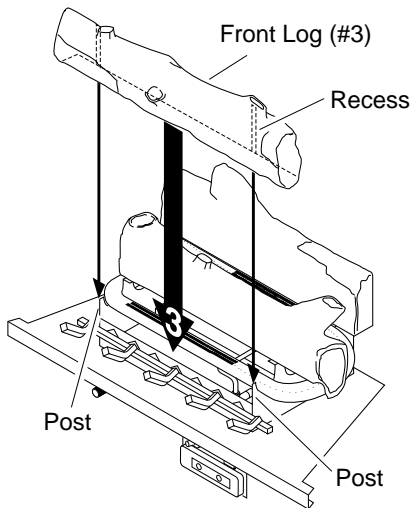

Figure 41 - Installing Front Log (#3)
3. Locate the recesses on the back of the front log (#3). Fit these recesses between the posts of the grate base (see Figure 41, page 19).